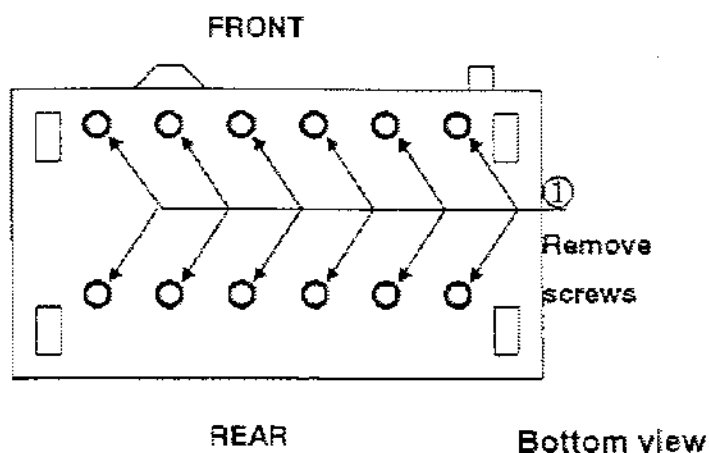

Fig.8
- ① Remove 12pcs screws on bottom of chase.(Refer to Fig.8)